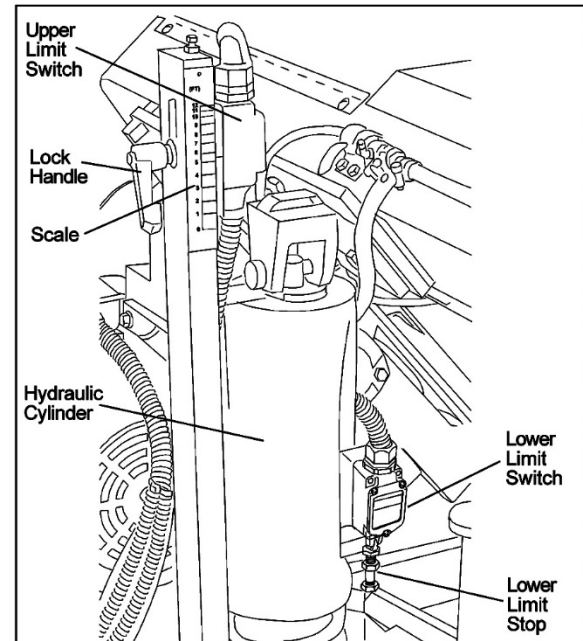

Figure 15: limit switches
1. To raise saw head, press the Saw Head Up pushbutton. The head will rise until upper limit switch (Figure 15) trips.